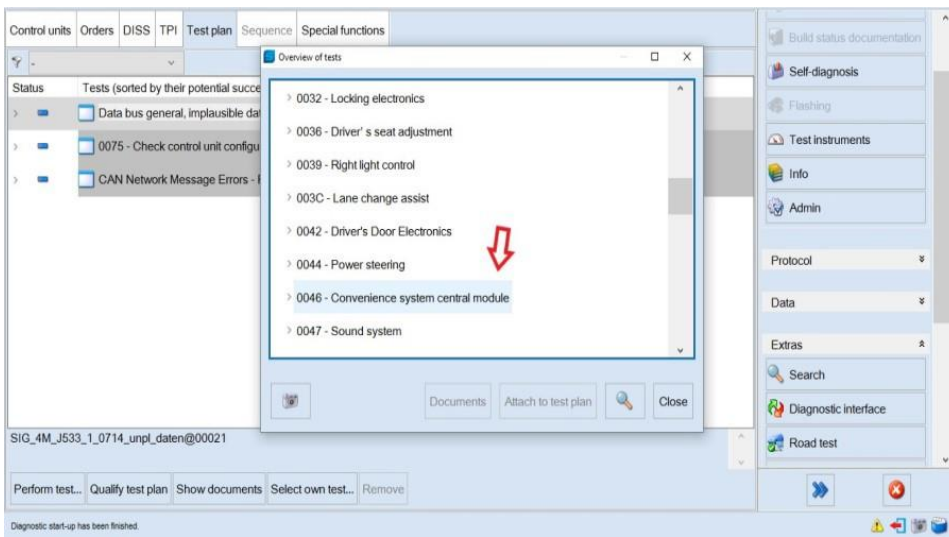

Figure 2
- Select > 0046 - Convenience system central module (Figure 2)